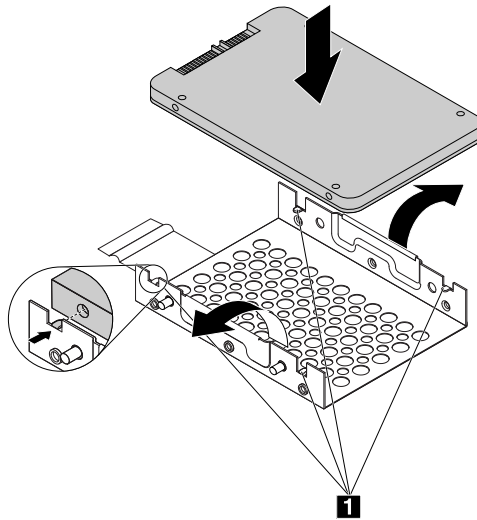

Figure 112. Installing the storage drive into the metal bracket of the converter
5. Install the new storage drive into the converter. See Figure 112 “Installing the storage drive into the metal bracket of the converter” on page 113.